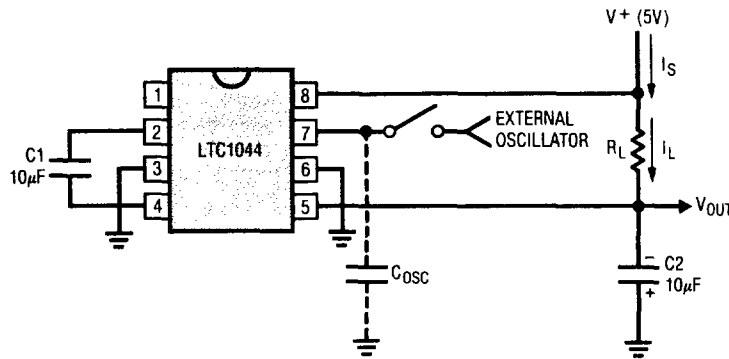

Figure 1
## ELECTRICAL CHARACTERISTICS $V^+ = 5V$ , $T_A = 25^\circ C$ , Test Circuit Figure 1, unless otherwise specified.
**TYPICAL PERFORMANCE CHARACTERISTICS** (Using Test Circuit Shown in Figure 1)